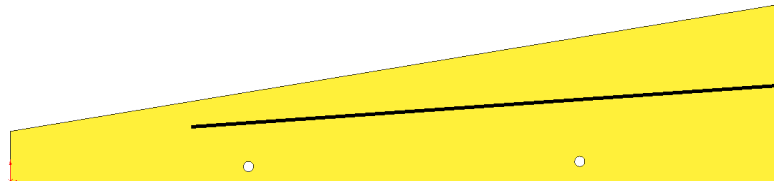

Fig. 7
Step 3. Click **Line**  (L) on the Sketch toolbar.
Step 4. Draw a line from back edge at a slight downward angle toward the front, **Fig. 7**.